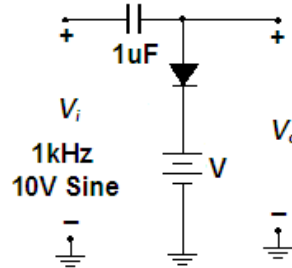

Fig: 9
3. Connect the circuit as shown in fig 9.